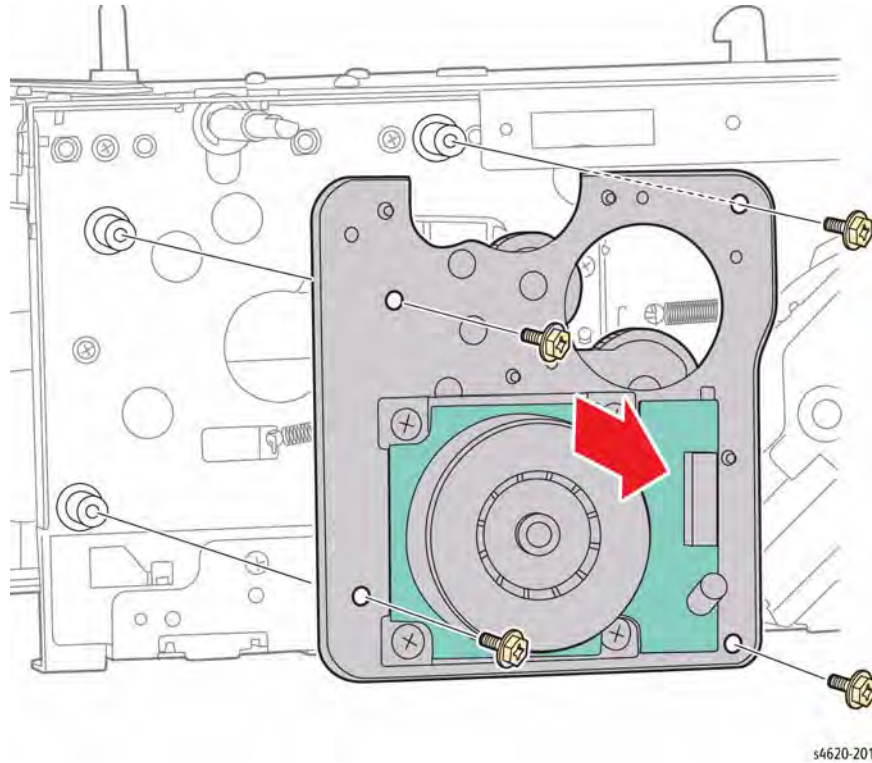

Figure 2 Remove the Feed Drive Assembly
10. Remove 4 screws (Gold, metal) that secure the assembly to the chassis, Figure 2.